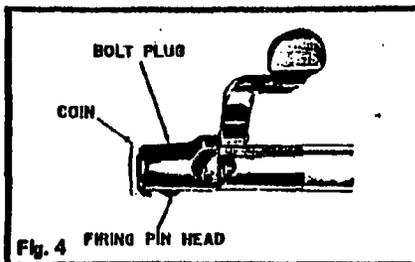

Fig. 4
**CLEANING AND CARE** - Caution: Before cleaning make sure there is no cartridge in the barrel or chamber. Cleaning of barrel or bolt is more easily done with bolt removed. To remove bolt, turn on front of bolt release with a small, flat key or screwdriver. Bolt release is located in front of bolt channel in receiver. (Fig. 3) Withdraw bolt from receiver. When cleaning barrel use soft cloth. Clean from breech to muzzle. Scrub barrel bore and cartridge chamber with good solvent, if necessary. Wipe dry and re-oil barrel and chamber very lightly. Clean bolt or bolt handle with a good petroleum solvent. Brush bolt face with good solvent. Re-oil lightly and lubricate bolt faces on bolt to prevent wear. If necessary to clean firing pin assembly, pull firing pin head back with a similar piece can be inserted in slot near rear of firing pin head (Fig. 4). Hold bolt handle and turn bolt plug until firing pin assembly removed from bolt. Clean, re-oil lightly and re-assemble in reverse. Removal of stock is not recommended unless for replacement of fore-end weights.